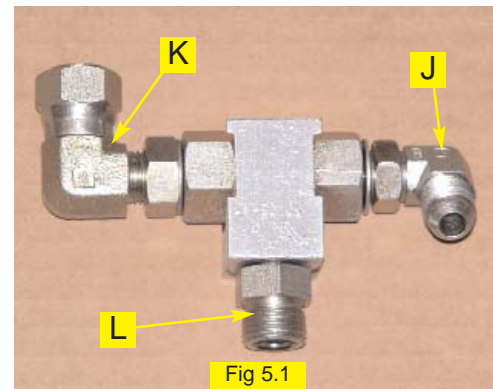

Fig 5.1
Pre-assemble the load sense shuttle (I) with adapter fittings (J), (K), and (L) as shown. (Figure 5.1)